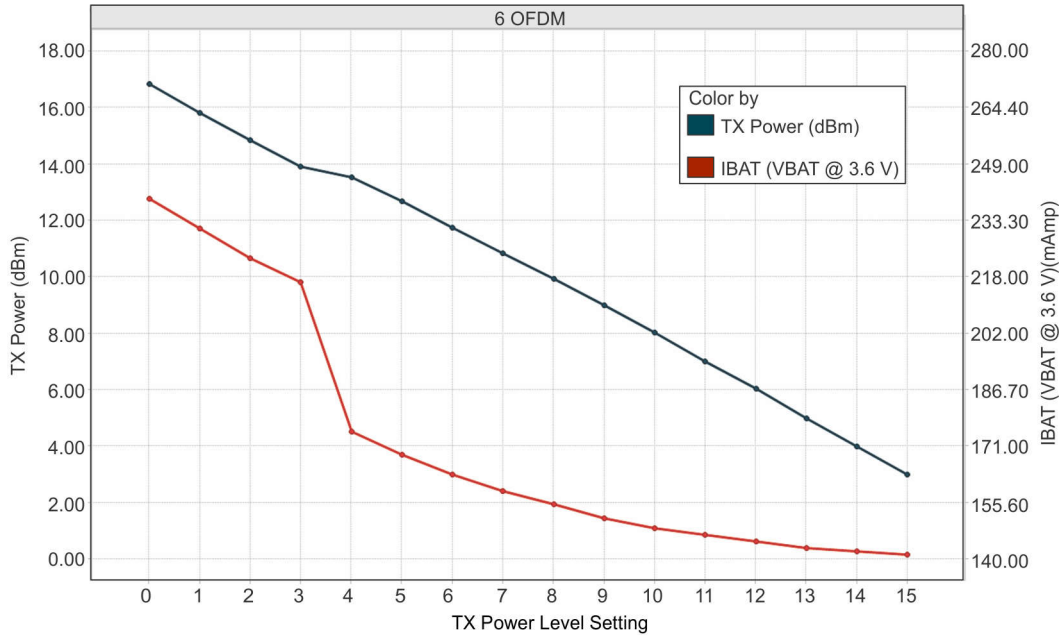
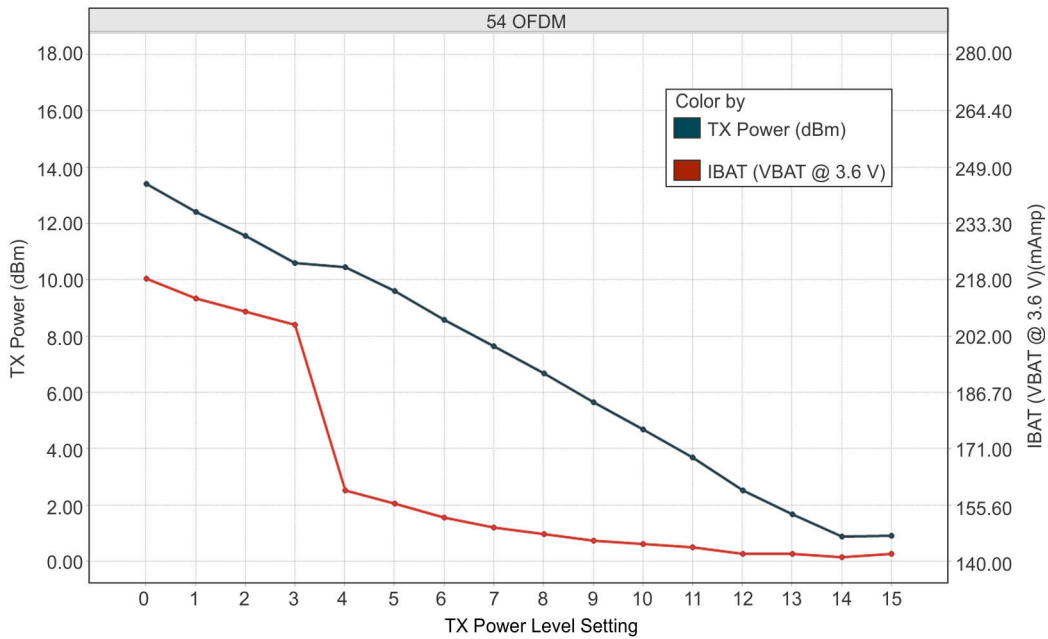

Figure 7-2. TX Power and IBAT vs TX Power Level Settings (6 OFDM)
Figure 7-3. TX Power and IBAT vs TX Power Level Settings (54 OFDM)
- (1) TX power level = 0 implies maximum power (see Figure 7-1, Figure 7-2, and Figure 7-3). TX power level = 4 implies output power backed off approximately 4dB.
- (2) The CC3135MOD system is a constant power-source system. The active current numbers scale based on the V_{BAT} voltage supplied.
- (3) The RX current is measured with a 1Mbps throughput rate.
- (4) DTIM = 1
- (5) The complete calibration can take up to 17mJ of energy from the battery over a time of 24ms. In default mode, calibration is performed sparingly, and typically occurs when reenabling the NWP and when the temperature has changed by more than 20°C . There are two additional calibration modes that may be used to reduced or completely eliminate the calibration event. For further details, see CC31XX CC32XX SimpleLink™ Wi-Fi® and IoT Network Processor Programmer's Guide.
- (5) The complete calibration can take up to 17mJ of energy from the battery over a time of 24ms. In default mode, calibration is performed sparingly, and typically occurs when reenabling the NWP and when the temperature has changed by more than 20°C . There are two additional calibration modes that may be used to reduced or completely eliminate the calibration event. For further details, see CC31XX, CC32XX SimpleLink™ Wi-Fi® and IoT Network Processor Programmer's Guide.